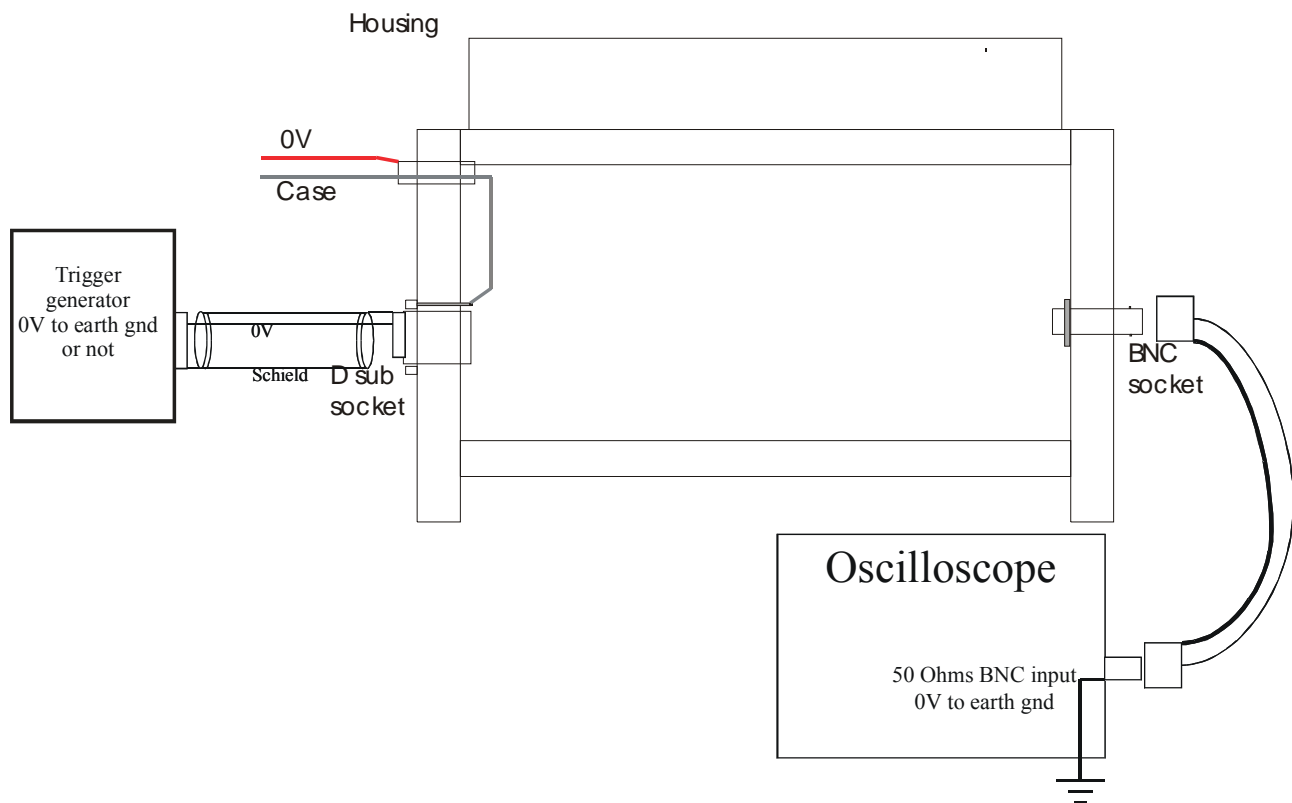

Figure 15: Schematic of recommended laser grounding
6.1 Internal mode operation (-x0z,-x1z) – fig 15